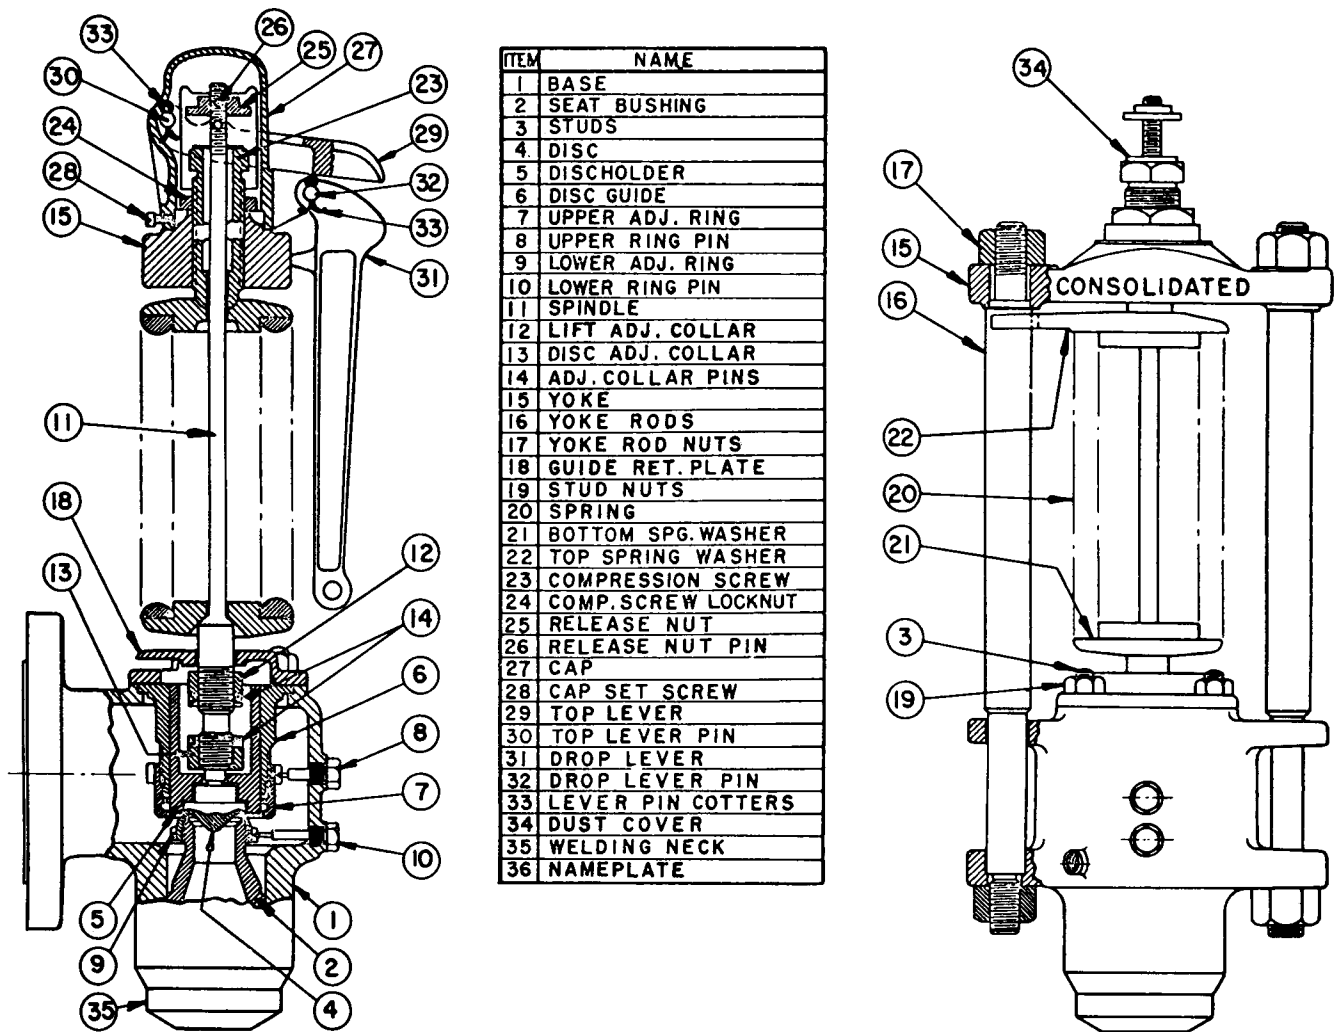
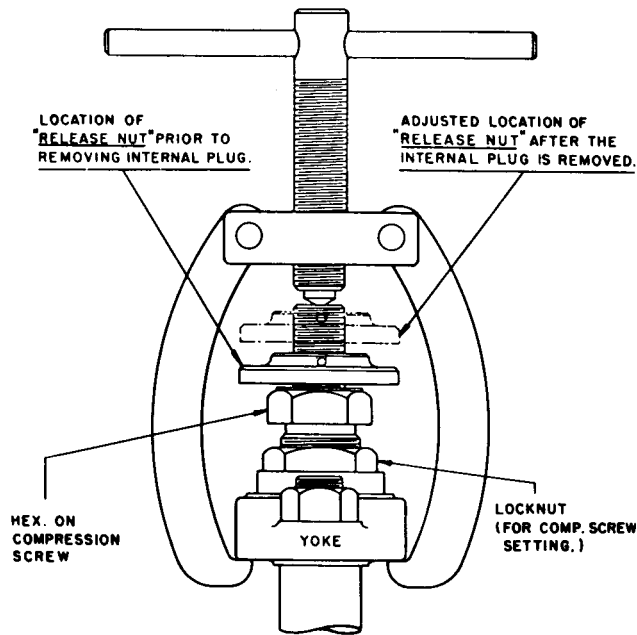

Figure 9
Figure 10
1. Refer to Figure 9. Remove CAP (27) with TOP LEVER (29) and DROP LEVER (31) attached. The RELEASE NUT (25) is fixed to SPINDLE (11) by means of a cotter pin. Note that the RELEASE NUT does not quite engage top of COMPRESSION SCREW (23). See Figure 10 for details of RELEASE NUT position.
2. Center the test gag screw in the exposed end of the SPINDLE (11) and hook the legs of gag under the sides of the YOKE as shown in Figure 10.
2. Reassemble YOKE and SPRING ASSEMBLY into BASE being careful not to damage the DISC. Locate the GUIDE RETAINING PLATE (18) so that the opening faces the valve outlet. The lugs on the TOP SPRING WASHER (22) should be on the right side of the valve when facing the outlet.
3. Replace the two YOKE ROD NUTS (17) and the four GUIDE RETAINING STUD NUTS (19). Tighten the YOKE ROD NUTS (17) and just snug up the four GUIDE RETAINING STUD NUTS (19).
4. Remove cotter pin from RELEASE NUT (25). Turn the RELEASE NUT counter clockwise and return RELEASE NUT to position at top of SPINDLE (11) so that cotter pin can be re-inserted in a hole drilled in the SPINDLE at that location. See Figure 10. The valve setting is now approximately equal to the setting stamped on valve name plate.
5. Visually center GUIDE RETAINING PLATE (18) around SPINDLE (11) and tighten the four GUIDE RETAINING STUD NUTS (19).
6. Replace CAP (27) and locate DROP LEVER (31) vertically on center line of valve.
7. Remove TOP LEVER (29) from CAP (27) and reassemble in position in accordance with Figure 9. If properly positioned, TOP LEVER should have a small amount of vertical movement prior to engaging bottom surface of RELEASE NUT.